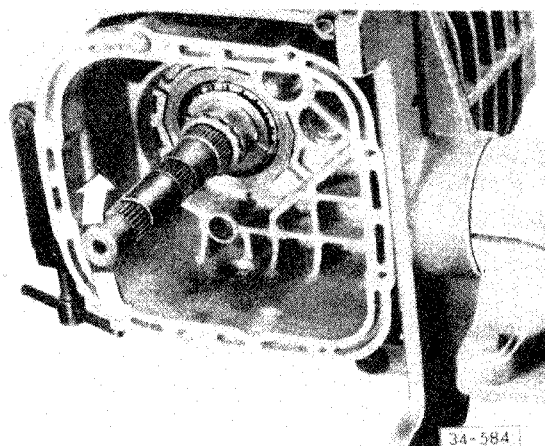

Fig. 8 Bearing condition, checking
- if no turning torque can be measured, see Fig. 8